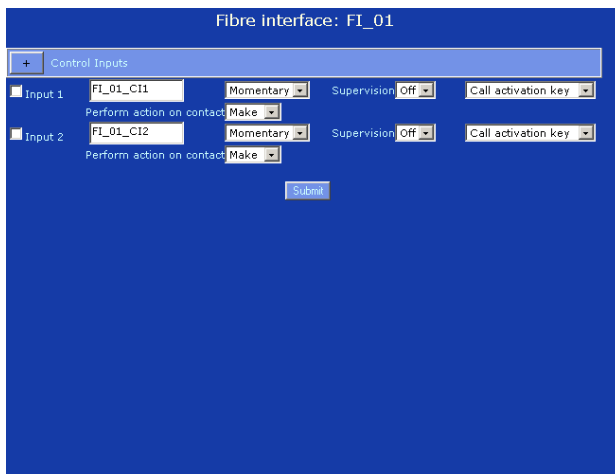

figure 34.37: Configure fiber interface, step 2
- 2 Click the name of the fiber interface that must be configured. A screen similar the one in figure 34.37 appears in the main frame of the web interface.